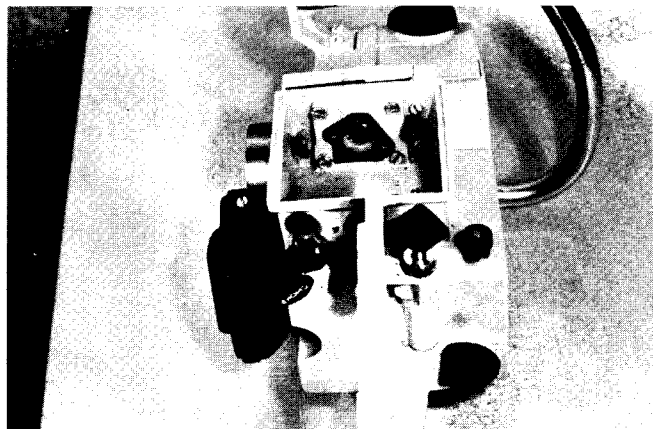
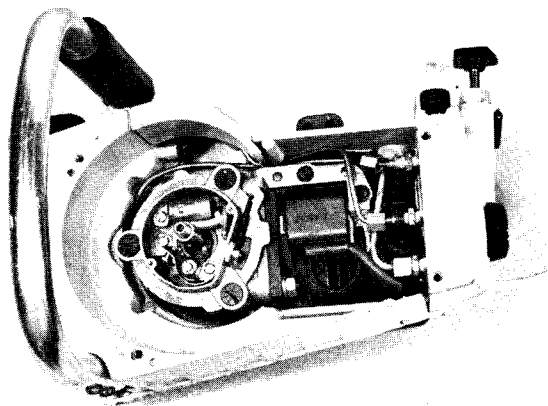

Fig. 30 — Oil Tank Mounting Screws in Carburetor Chamber
Fig. 31 — View of Oil Lines Used on Automatic Oiler System
9. Remove four screws in carburetor chamber, Fig. 30. One screw on right bottom side of saw, two lines (automatic oiler) on left side of saw, Fig. 31, and remove oil tank assembly.